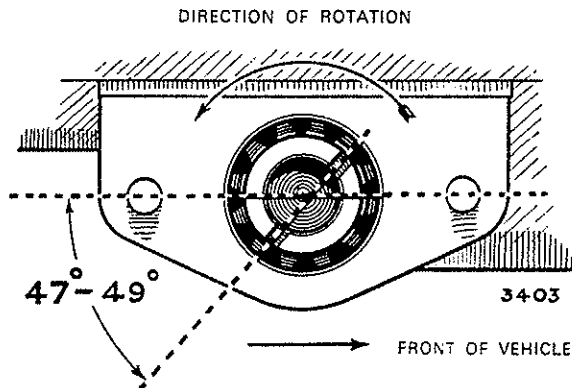

Fig. B.14. Showing the correct assembly of the oil pump with No. 1 cylinder at T.D.C. firing position
2. Refit the oil pump to the cylinder block with the distributor driving slot positioned as shown in Fig. B.14. No jointing is required between the pump face and the cylinder block face. Secure the pump with the two setscrews and spring washers.